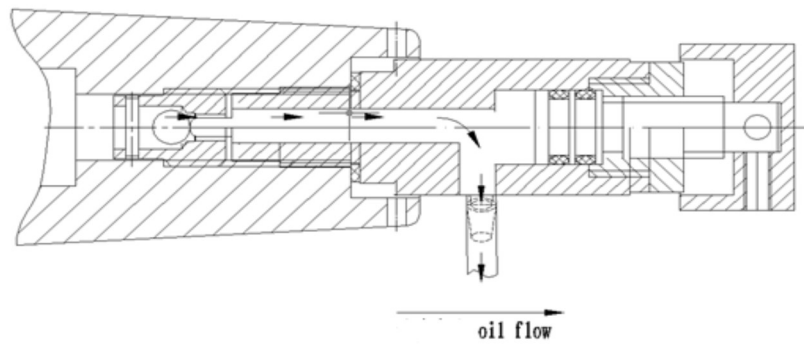

Figure 9 Schematic of oil sampling
See figure 9 for oil sampling
- 3) As indicated by Figure 9, mount oil sampling valve to oil drain valve and fix well